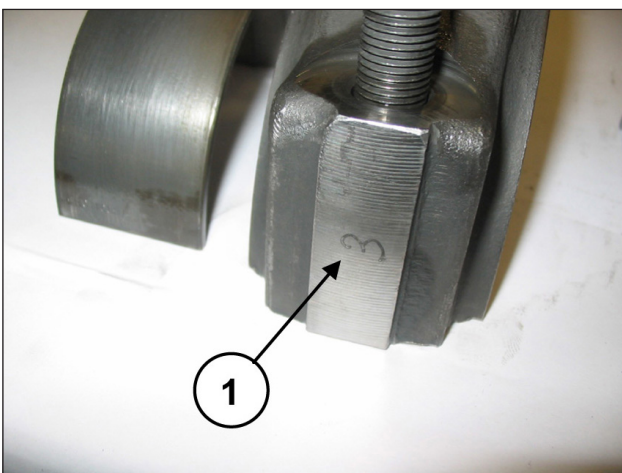

Fig. 24
To avoid possible errors, caps and half supports have been numbered on one side (pos. ①, Fig. 24).